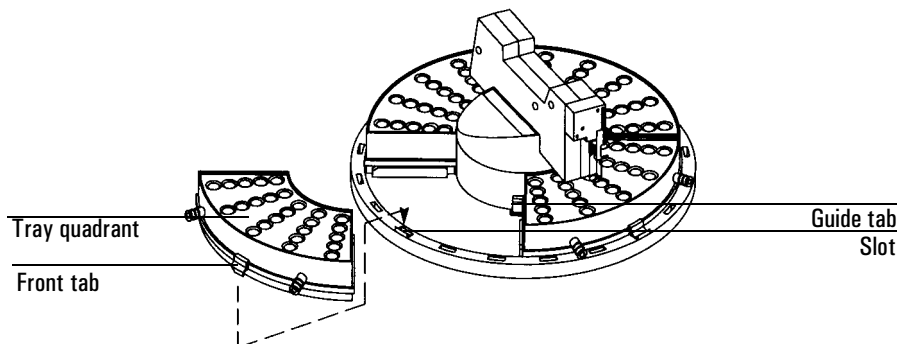

Figure 2 Install the tray quadrants
4. Install the tray quadrants. Slide the leading edge of each quadrant under the guides on the tray, then snap the front tab into the slot on the tray. See Figure 2.